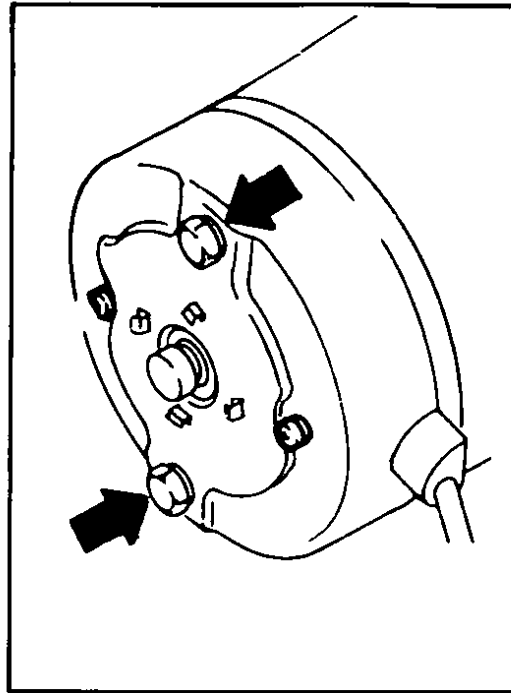

Fig 66 Through bolt locations
- 2 On a clean bench, loosen two through bolts Fig 66. Pull bolts back until just clear of gear case, but do not remove from starter assembly